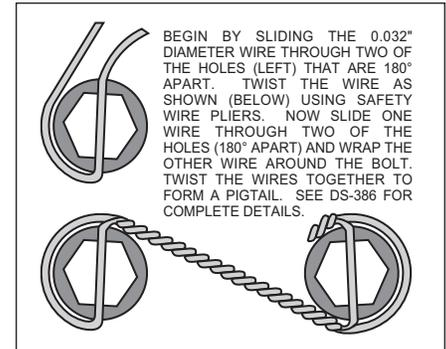
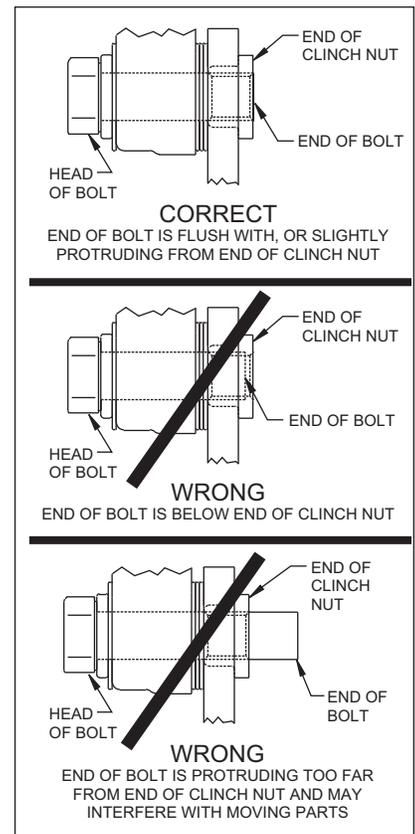

Figure 4. Safety Wire Diagram
Figure 5. Clinch Nut Engagement Diagram
•With the slot pointing upward and the mounting ears pointing towards the rear of the vehicle, install the caliper mounting bracket (1) to the housing flange using the stock Original Equipment Manufacturer (OEM) bolts and nuts. Stock OEM hex nuts that retain the bracket (1) should be on the wheel side of the bracket. Apply red *Loctite*® 271 to the stock OEM bolt threads and torque to OEM specifications. **NOTE:** Some brackets act as the bearing retainers, while others help locate the bearing in the axle housing flange. If the stock bearing plates are still on the axle, the caliper mounting brackets (1) should be located between the axle housing flange and the bearing retainer plate. Make sure the heads of the caliper mounting bracket insert nuts are FACING OUTWARD TOWARDS THE WHEEL.
•The rotor (3) has two sides. A flat side and an inset side. Bolt hat (2) to flat side of rotor (3) by sliding one of the T-nut's (4) into the "T" slot on the hat and attaching the rotor using a lock washer (5) and bolt (6) through the mounting holes in the rotor (3) into the corresponding hole in the T-nut (4). Finger tighten only at this time. Repeat this procedure for the remaining T-nut's, lock washers and bolts. Insert the T-nut tool (supplied in the bolt kit) into the slot between the T-nut (4) and hat (2) up to the flat spot on the T-nut tool shaft. Torque bolt (6) to 198 **in-lb**. Remove T-nut tool and insert into T-nut slot on opposite side of hat and torque bolt (6) to 198 **in-lb**. Repeat until all T-nuts (4) have been tightened and torqued to proper specification. **NOTE:** Reference Wilwood data sheet DS-440 (supplied with this document) for additional information if necessary. Safety wire bolts (6) using standard 0.032 inch diameter stainless steel safety wire as shown in Figure 4. Please refer to Wilwood's data sheet DS-386 (available at www.wilwood.com/Pdf/DataSheets/ds386.pdf) for complete safety wire installation instructions.
•Align the correct hole pattern in the hat (2) with the stud pattern on the axle flange. **NOTE:** Some OEM and after market axles come with stud sizes larger than 0.50" diameter. Verify stud size and have a qualified machine shop drill the hats to the correct size. Slide the hat/rotor assembly (2 and 3) over the wheel studs and against the axle flange face.
•**NOTE:** Please reference the caution statement at the beginning of the assembly instructions. WITH THE BLEED SCREWS POINTING UP, mount the caliper (7) over the rotor (3) and onto the caliper mounting bracket (1) using washers (8) and mounting bolts (9). View the rotor through the top opening of the caliper. The rotor should be aligned in the center of the caliper. If not, adjust the caliper by using 0.032 inch shims (10) by placing them between the caliper mounting bracket (1) and the caliper (7). Add as many shim washers (10) as necessary to achieve the correct alignment. **NOTE:** The end of the bolt must be flush with or slightly protruding from the head of the clinch nut. See Figure 5. Place spare shims (10) between washer and caliper mounting ear to achieve the proper mounting fastener configuration. Always use the same amount of shims on both the top and bottom caliper mounting bolts (9). Apply red *Loctite*® 271 to the mounting bolt threads (9), torque to 30 ft-lb. Safety wire the caliper mounting bolts (9).
•Position the Wilwood disc brake pads (11) into the caliper (7) and fasten with cotter pin (12). Steel backing plate side of brake pad should face the caliper pistons.